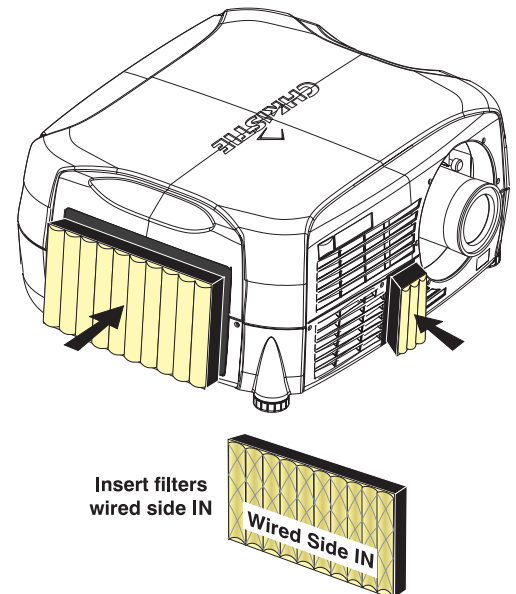

Figure 4.7.
3. Insert the new filters with the wired side in. (Figure 4.7.)